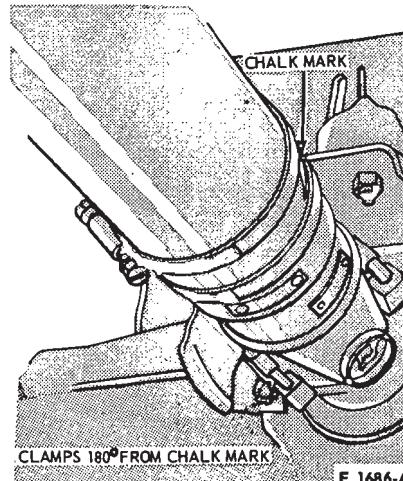

FIG. 4—Installing Whittek Clamps
3. Install two Whittek type hose clamps on the driveshaft so that so that the heads are located 180 degrees from the crayon marking (Fig. 4). Tighten the clamps.